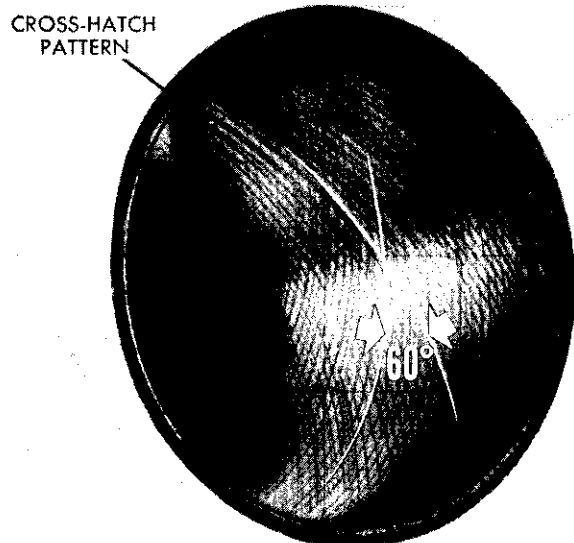

Fig. 35—Cross Hatch Pattern
(2) Deglazing of the cylinder walls may be done using a cylinder surfacing hone, Tool C-3501, equipped with 280 grit stones (3501-3810) if the cylinder bore is straight and round. 20 to 60 strokes depending on the bore condition will be sufficient to provide a satisfactory surface. Inspect cylinder walls after each 20 strokes. Using honing oil C-3501-3880 or a light honing oil available from major oil distributors. **Do not use engine or transmission oil, mineral oil or kerosene.**
(3) Honing should be done by moving the hone up and down fast enough to get a cross-hatch pattern. When hone marks intersect at 60°, cross hatch angle is most satisfactory for proper seating of rings (See Fig. 35).
(4) After honing, it is necessary that the block be cleaned again to remove all traces of abrasives. Wash cylinder block and crankshaft thoroughly.